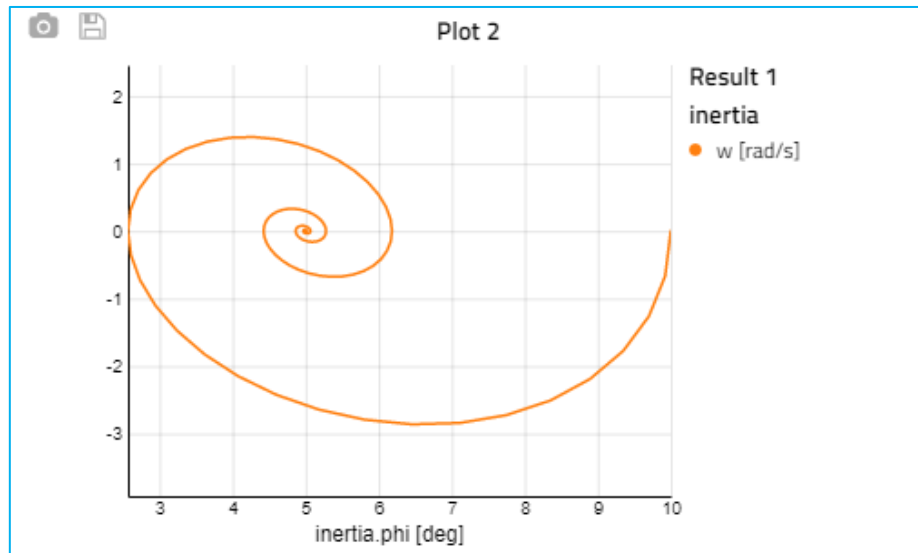

Figure 20 Phase-space diagram
- c. You should see a phase-space diagram similar to Figure 20 .